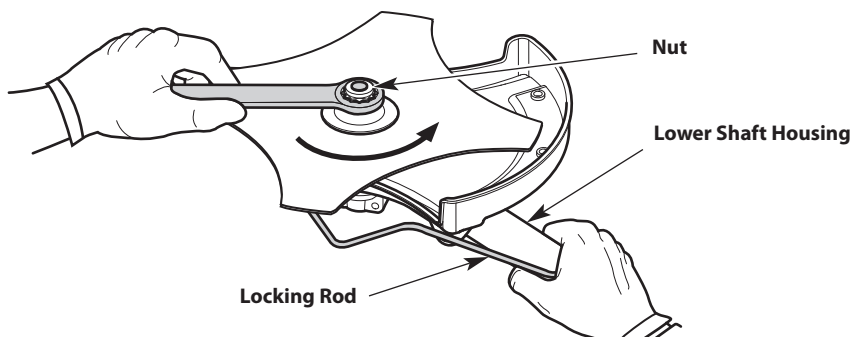

Fig. 18
7. Tighten the nut **counterclockwise** with a wrench (Fig. 18):